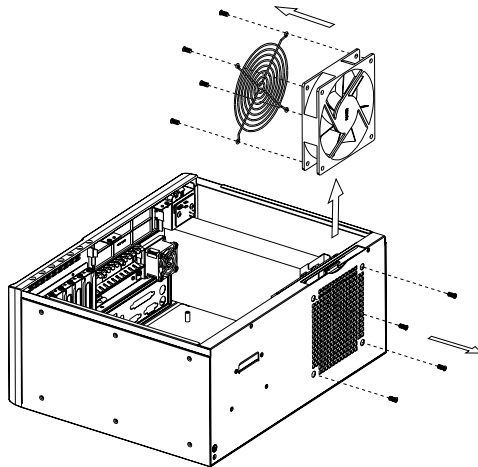

Figure 3.3: Replacing the 12 cm fan
4. Loosen the four screws from outside the rear plate and then gently remove the fan module. Loosen four screws on the fan bracket and the four screws on the rear side of the module (not the screws on the fan) and replace it with a new fan. (see *Figure 3.3*)